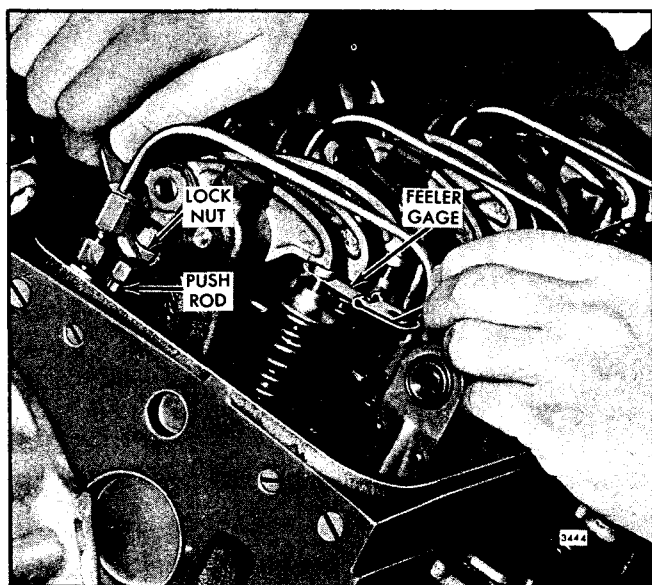

Fig. 1 - Adjusting Valve Clearance
5. Place a .013" feeler gage, tool J 9708, between the valve stem and the rocker arm (Fig. 1). Adjust the push rod to obtain a smooth "pull" on the feeler gage.